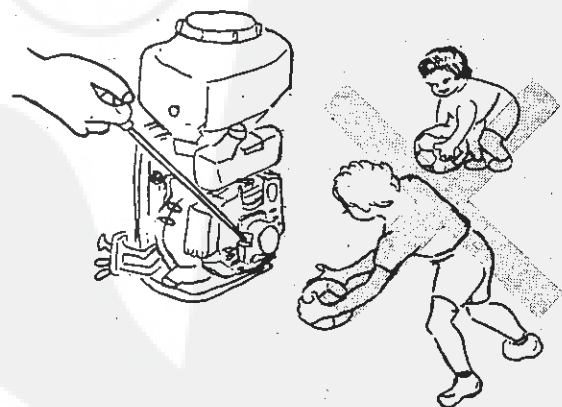

Figure 4
9. DO NOT ALLOW OTHER PERSONS TO BE NEAR AT POWER DUSTER/MIST BLOWER WHEN STARTING ENGINE. (FIGURE 4)